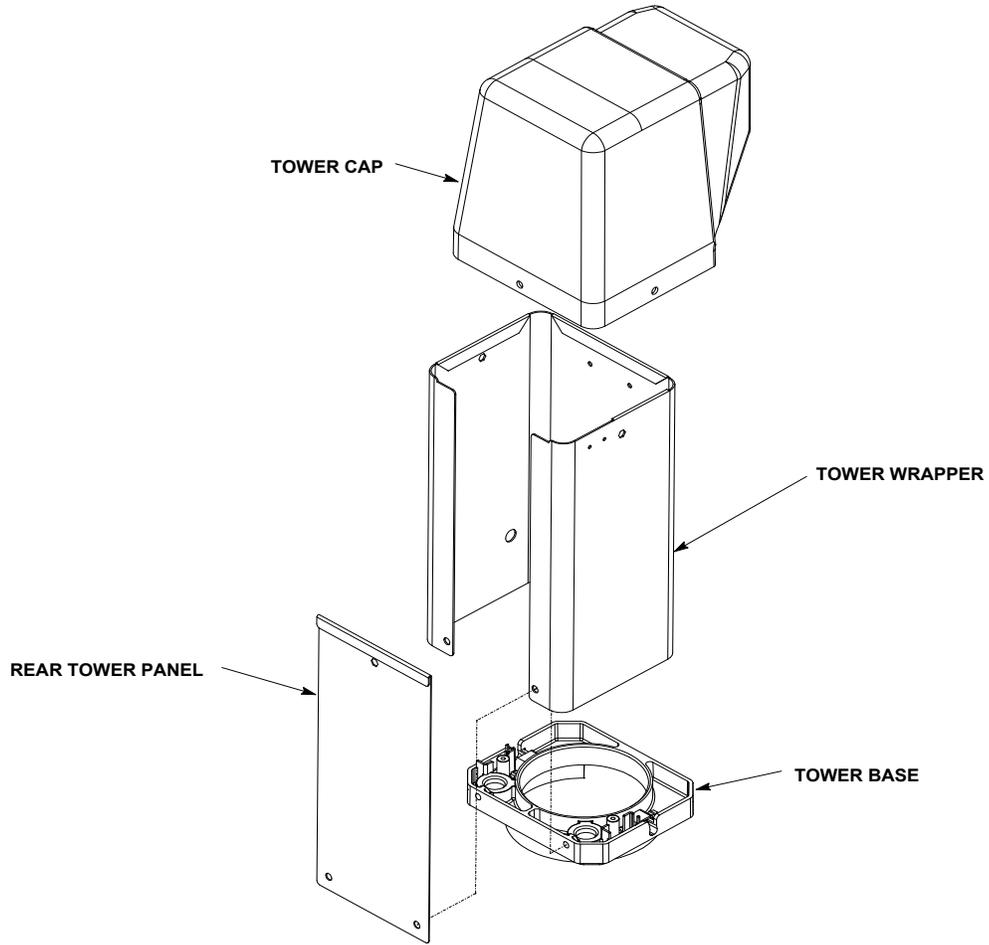

Figure 1.
2. Remove rear tower panel by removing the two screws at the bottom rear of the tower (See Figure 1).
3. Remove the tower wrapper by tilting the top forward and sliding it toward the front (See Figure 1).